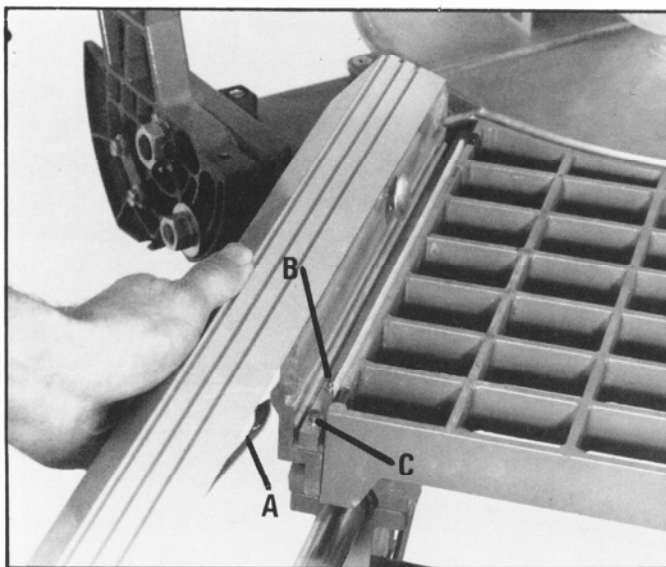
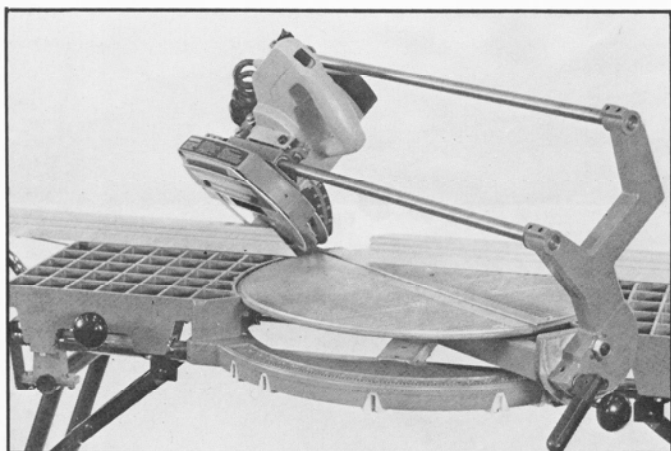
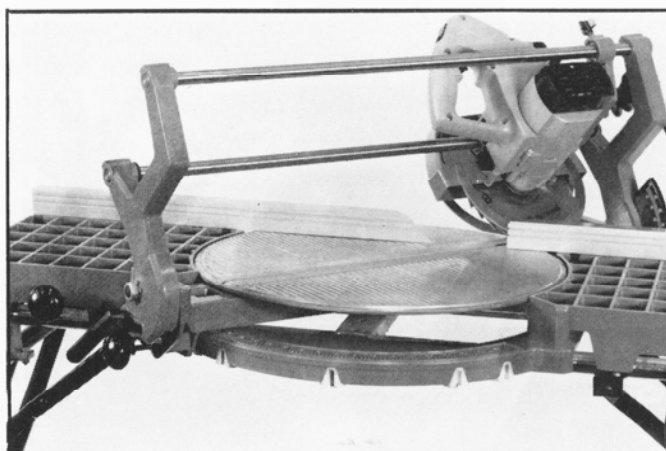

Fig. 46
Fig. 47
Fig. 48
Your saw is shipped with the left fence half assembled to the machine and the hole in the spring (A) Fig. 46, engaged with the inside pin (B) located in the chanel of the fence bracket. This ensures that the fence is positioned as close to the blade as possible and this position is satisfactory for most cutting operations.
When the track arm is positioned 45 degrees to the right and the arm tilted 45 degrees to the left, as shown in Fig. 47 or when the track arm is positioned 45 degrees to the left and the arm tilted 45 degrees to the left, as shown in Fig. 48, the left fence half must be moved further away from the blade by engaging the hole in the spring (A) Fig. 46 in pin (C).